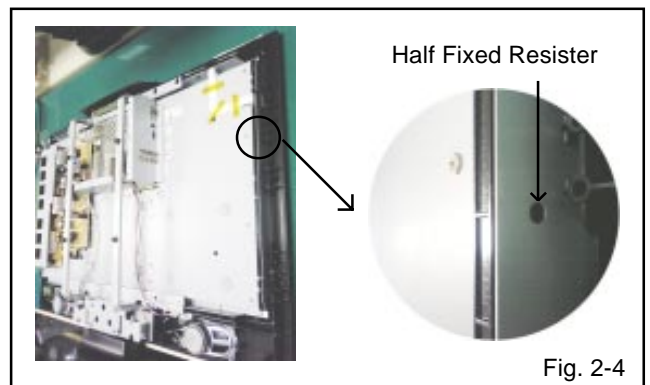

Fig. 2-4
3. Turn Variable Resistor, and adjust it not appear FLICKER (FLASHING). (**Refer to Fig. 2-4**)